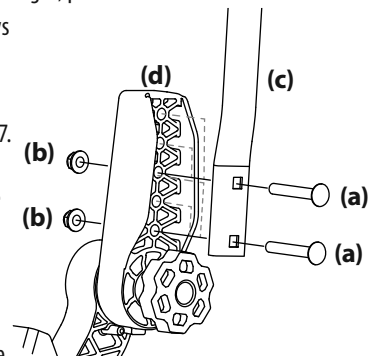

Figure 7
1. Remove the two carriage screws (a) and two flange lock nuts (b) that secure the lapbar drive control lever (c) to the upper handle adjuster (d). See Figure 7.
2. Move the lapbar drive control lever into one of the three available heights and secure in place with the carriage screws and flange lock nuts. See Figure 7.
4. If the lapbars do not line up after making the knob adjustment, loosen nuts (b), align lapbars and retighten nuts. Once this fine adjustment is made, the lapbars will align when using the knob adjustment. See Figure 7.